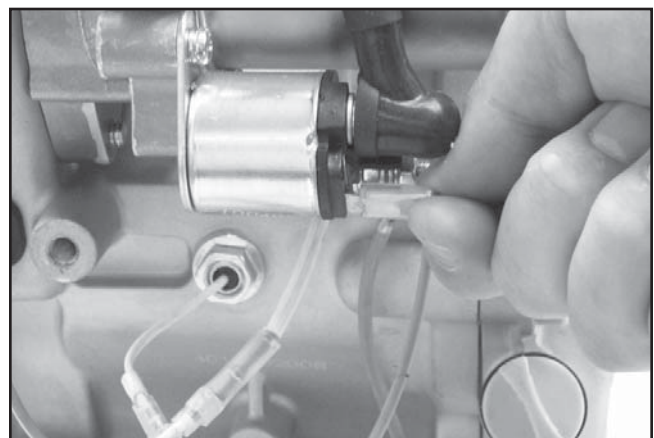

Figure 11-68. Connect Electrical Leads.
2. Connect the electrical leads for the Oil Sentry™, ignition module, key switch, relay, and starter. See Figure 11-68.